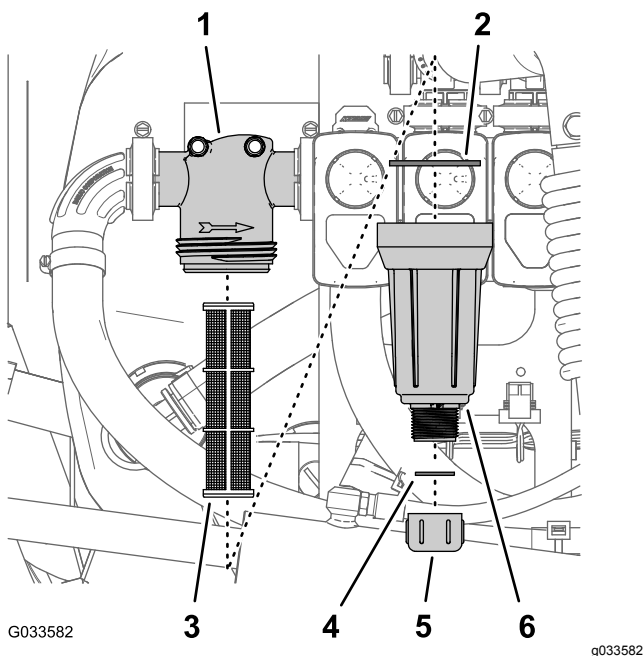

Figure 97
2. Align a drain pan under the pressure filter (Figure 97).
3. Rotate the drain cap counterclockwise and remove it from the bowl of the pressure filter (Figure 97).
4. Rotate the bowl counterclockwise and remove the filter head (Figure 97).
5. Remove the pressure filter element (Figure 97).
7. Check the gasket for the drain plug (located inside the bowl) and the gasket for bowl (located inside the filter head) for damage and wear (Figure 97).
8. Install the pressure filter element into the filter head (Figure 97).
9. Install the bowl onto the filter head, and tighten by hand (Figure 97).
10. Assemble the drain cap onto the fitting at the bottom of the bowl, and tighten the cap by hand (Figure 97).